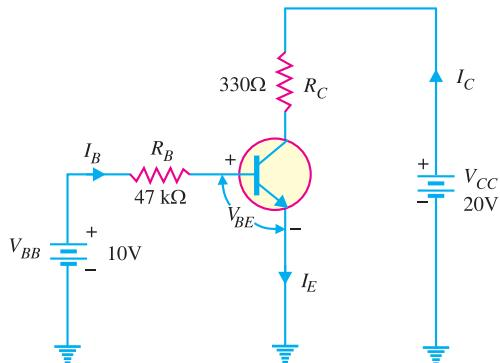

Fig. 8.40
**Example 8.25.** Determine the Q point of the transistor circuit shown in Fig. 8.40. Also draw the d.c. load line. Given  $\beta = 200$  and  $V_{BE} = 0.7 \text{ V}$ .
**Solution.** The presence of resistor  $R_B$  in the base circuit should not disturb you because we can apply Kirchhoff's voltage law to find the value of  $I_B$  and hence  $I_C (= \beta I_B)$ . Referring to Fig. 8.40 and applying Kirchhoff's voltage law to base-emitter loop, we have,